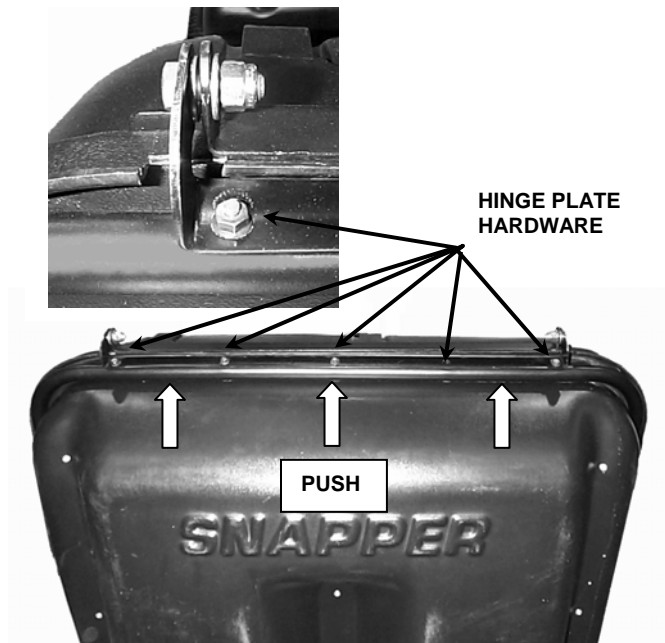

FIGURE 1.10
- G. If hinge adjustment is required, loosen hinge plate hardware. For a tighter seal, push top of rear cover frame firmly against the Front Cover Assembly. Tighten hinge plate hardware securely. See Figure 1.10.